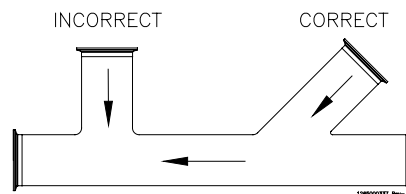

Figure 2
- Avoid abrupt transitions in the piping system (**Figure 2**).